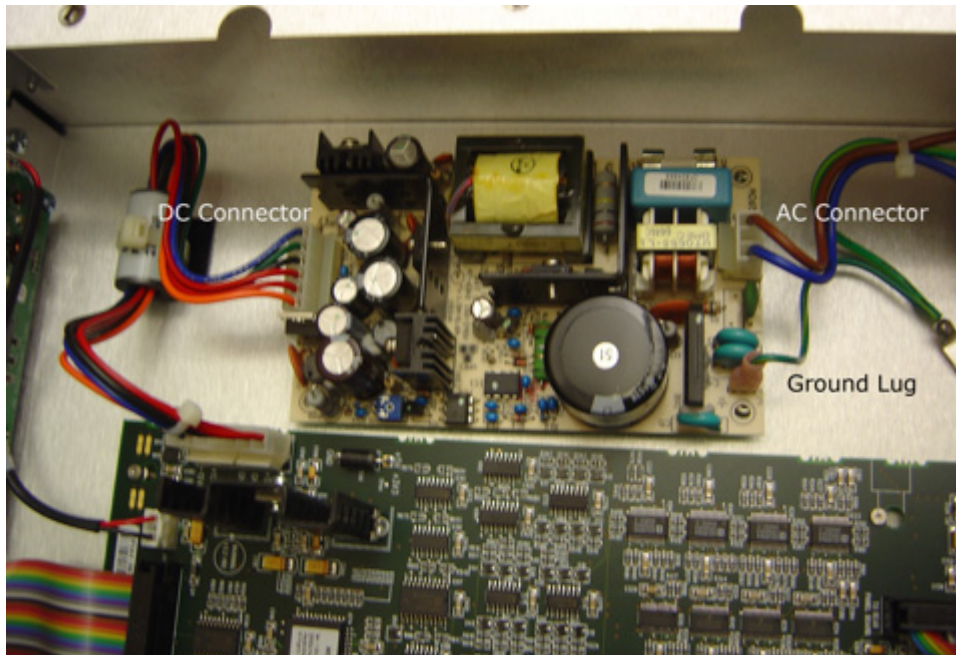

Figure 4 Uncovered Power Supply Module
6. Unwrap the protective cover from the power supply module, and set it aside. The protective cover will be reused. Figure 4 shows the power supply module uncovered.
7. Unplug the two white connectors and the ground wire spade connector from the old power supply module. The connectors to unplug are shown labeled in Figure 4.